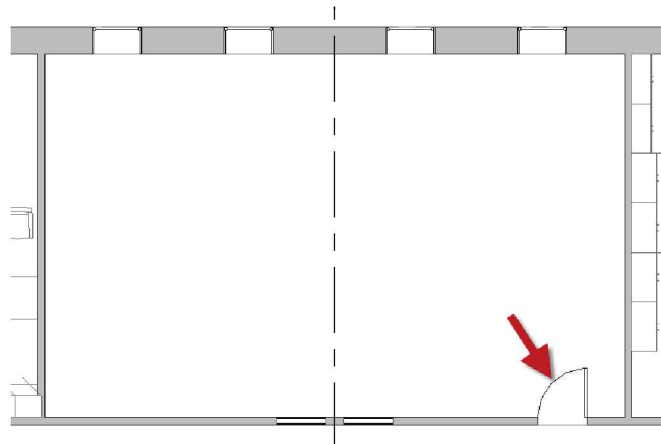

FIGURE 17-3.11 Door added in Level 1 – New floor plan view
30. In the Level 1 – New floor plan view, add a **Door** as shown in Figure 17-3.11.